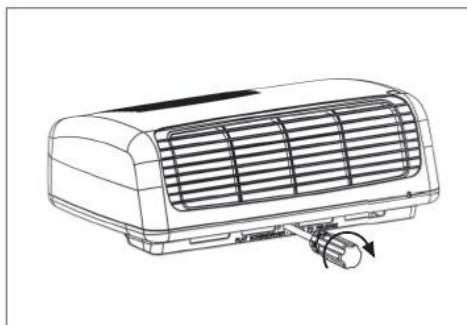

Figure 2.
- To remove the heater from the Wall Mounting Base insert a at blade screwdriver into the hole located below the middle of the outlet grille. Rotate the screwdriver until the clip releases. Then while holding the heater, gently push up with the screwdriver sliding the heater off the Wall Mounting Base. (See Figure 2.)